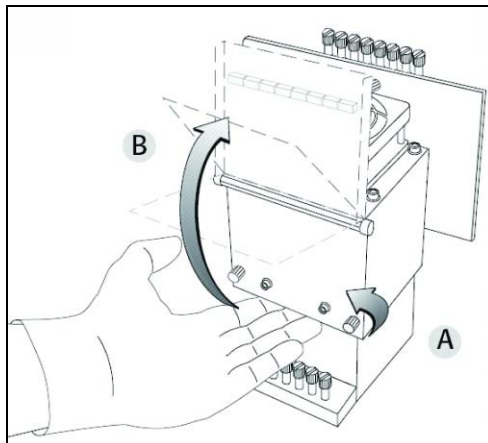

Figure 6-60: Opening the print-head compartment
- Open the print head compartment (see figure 6-60 on page 43).